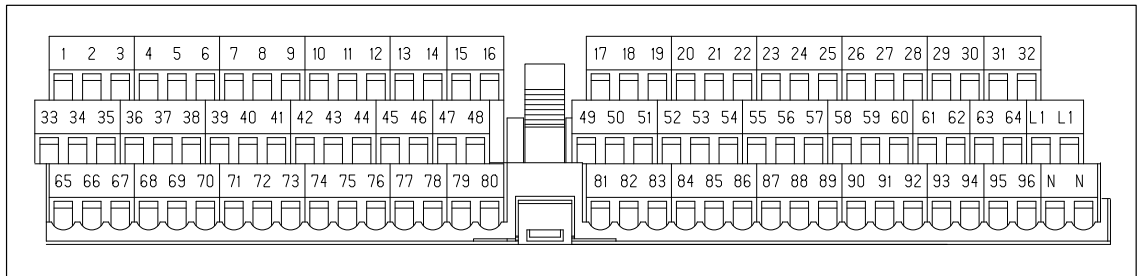

Figure 7-16 Terminal Numbering: Terminal Block TB6/AC (Screw-Type Terminal, 3-Tier)
**Terminal Numbering** Figure 7-16 is an enlargement of the terminal numbering printed on the TB6/AC (screw-type terminal, 3-tier).